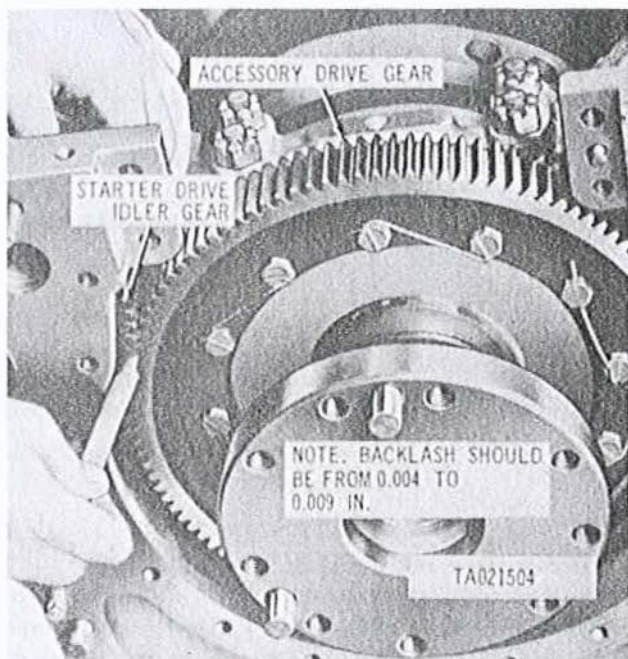

Figure 3-312. Checking accessory drive gear and starter idler gear backlash.
a. Install accessory drive gear on crankshaft and alternately tighten twelve bolts (fig. 3-125) to draw drive gear on to crankshaft flange. Secure bolts with locking wire. Check backlash between accessory drive gear teeth and starter drive idler gear as shown in figure 3-312.